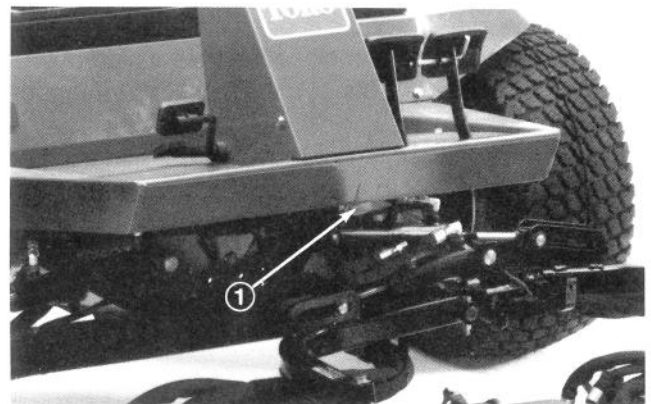

Figure 37
2. Attach a suitable chain, strap or cable to the center of the front frame member (Fig. 37).